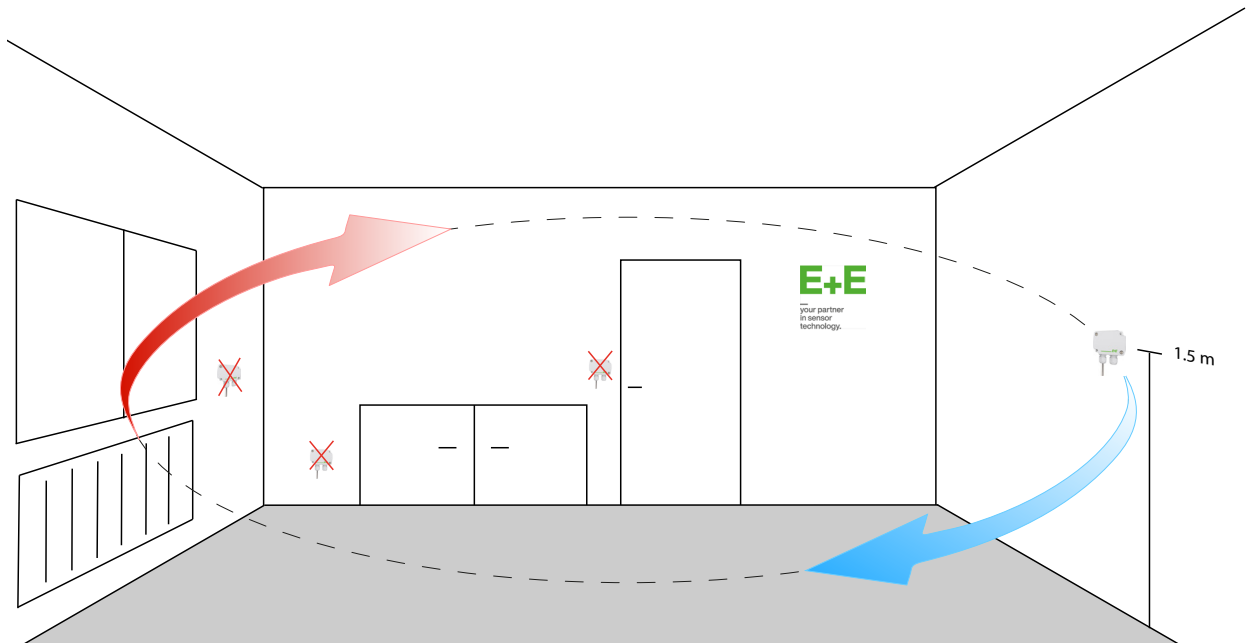

Fig. 3 Correct or incorrect mounting of the sensor indoors
- Mount the temperature sensor at representative locations of the space to be monitored (see Fig. 3 and Fig. 5).